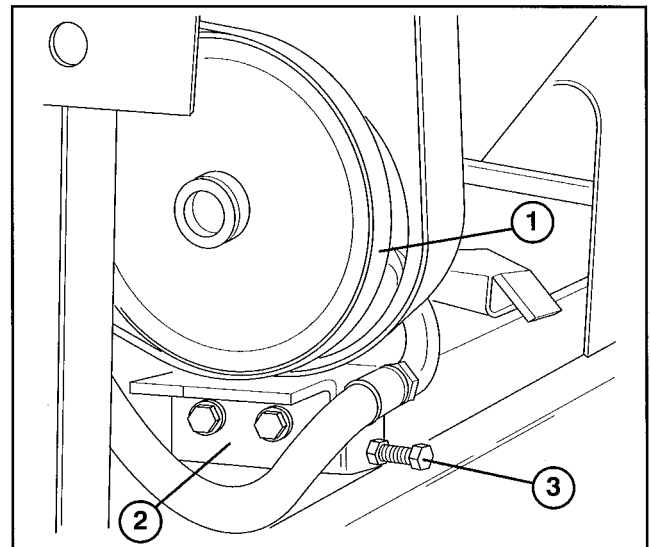

Figure 35
1. The belt tension on the hydraulic pump (Fig. 35) must have a maximum deflection of 5/32 of an inch with a 2 to 3 pound load applied.
B. To adjust tension, loosen (2) capscrews securing pump support bracket to chassis (Fig. 35).